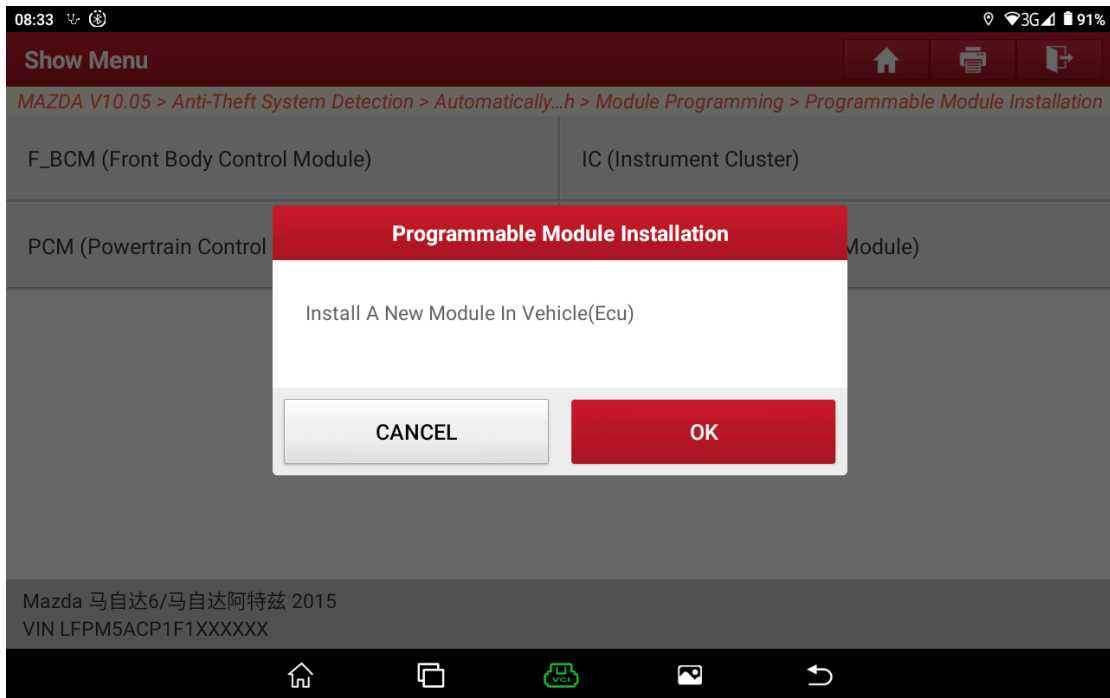

Figure B16
13. Install a new F_BCM module. See Figure B16.